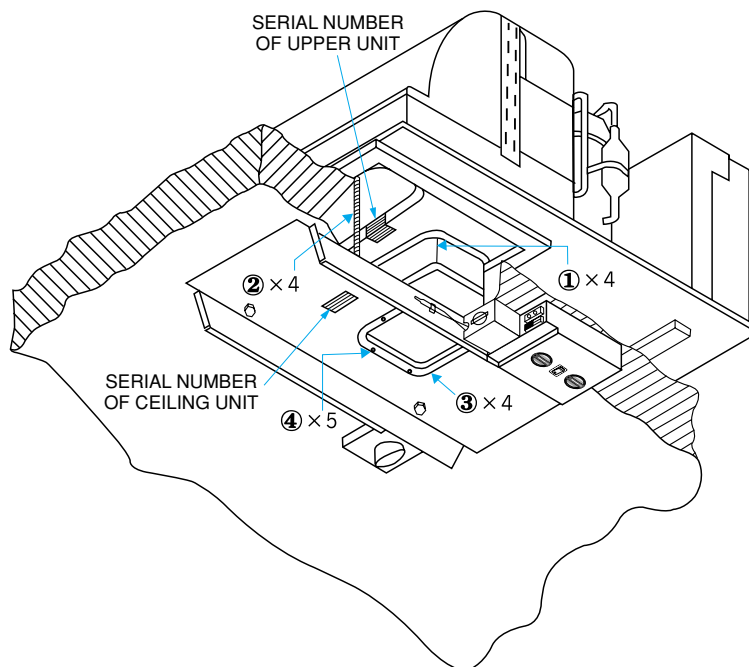

Figure 4
- 3** Before the ceiling assembly can be mounted to the roof top air conditioner, the fabric duct collar must be fastened to the basepan of the air conditioner with 4 screws (See ①, Figure 4).
- 6** Secure the ceiling assembly frame to the roof top air conditioner with the mounting bolts (See ②, Figure 4). You must start (thread) the mounting bolts by hand to avoid cross-threading. **DO NOT START THE MOUNTING BOLTS WITH AN AIR GUN.** The mounting bolts should be tightened evenly. Do not over-tighten each bolt. The bolt tightening process is complete when the basepan gasket has been evenly compressed to 60%.
- 7** Pull the fabric duct collar through the ceiling assembly frame opening and pull the four corners to extend below the duct opening (See ③, Figure 4).
- 9 Fasten each side of the fabric duct with fitting the duct plate to the ceiling assembly plate with 5 screws (See 4, Figure 4). Trim any excess fabric that may extend beyond edge of duct plate.